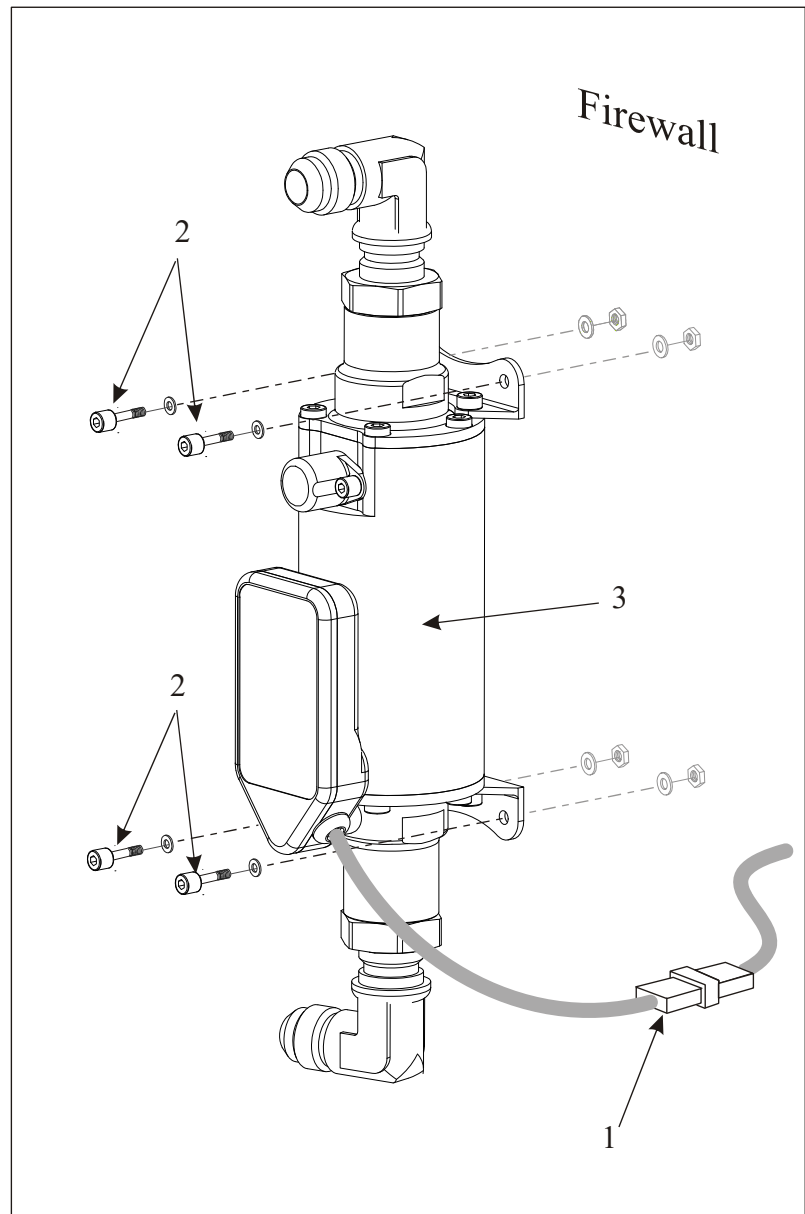

Figure 14 Andair Boost Pump Removal/Installation
- 2 Disconnect the plug (1, Figure 14) and the fuel lines from the boost pump.
- 3 Remove the Allen screws (2).
- 4 Remove the boost pump (3).